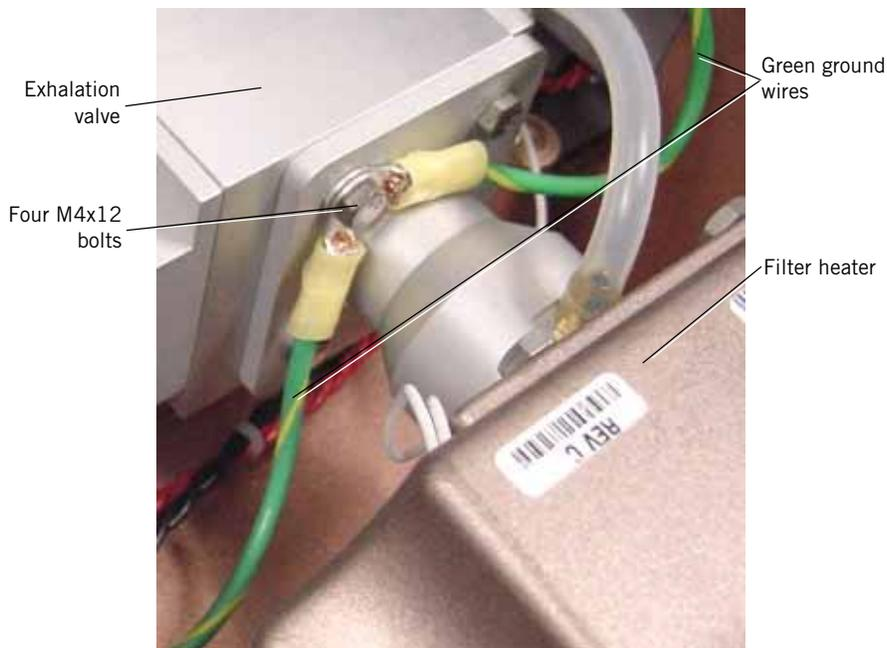

Figure 9-67: Exhalation valve to Filter Heater Connection
3. Use the four M4x12 bolts to fasten the exhalation valve to the filter heater assembly, with the two green ground wires connected (Figure 9-67).
4. Remove the four screws that hold the exhalation valve to the heater assembly (Figure 9-67).